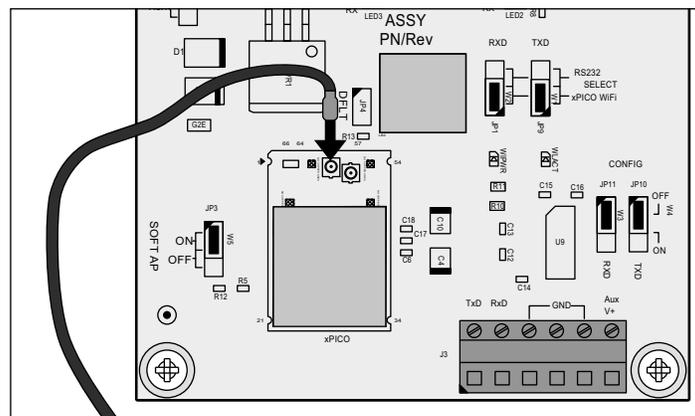

Figure 2. Antenna Connection Location
7. Connect the u-FI end of the antenna cable to the Antenna 1 connection on the Wi-Fi module (Figure 2).